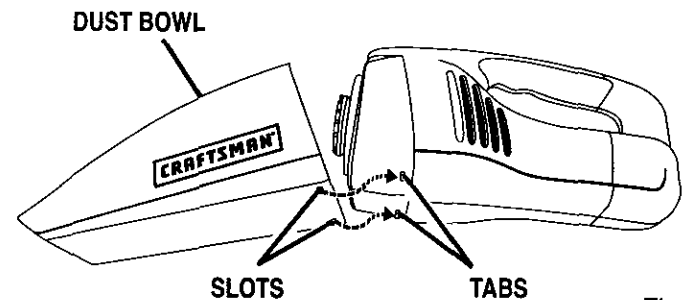

Fig. 6
See Figure 6.
- Position the two sections as shown in Figure 6. Align slots on bottom of dust bowl with tabs on bottom of motor housing then snap the two sections together.